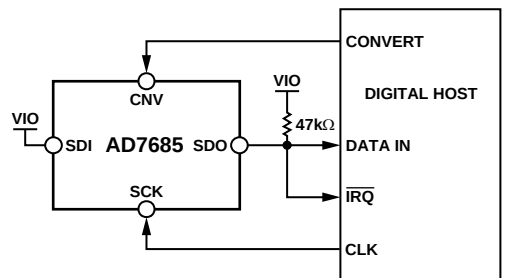
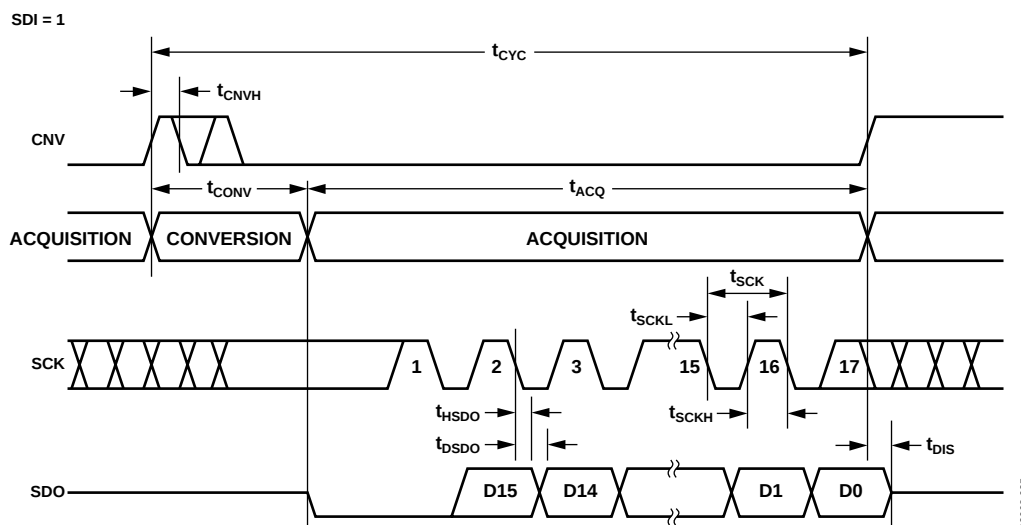
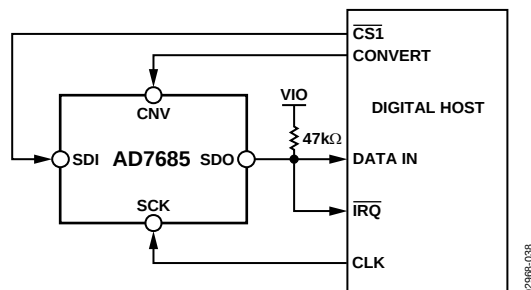
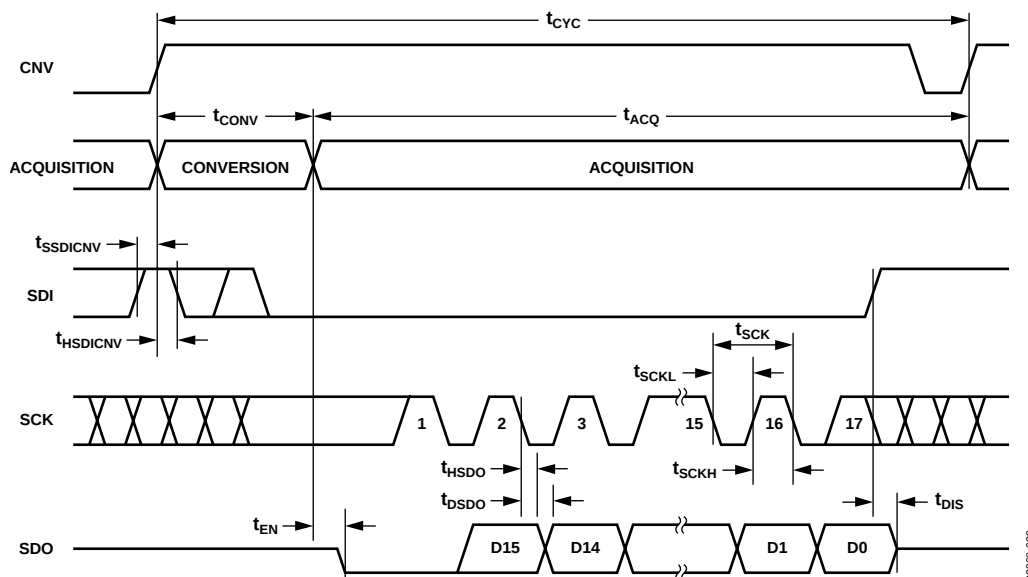

Figure 35. $\overline{\text{CS}}$ Mode 3-Wire with **BUSY** Indicator Connection Diagram (SDI High)
Figure 36. $\overline{\text{CS}}$ Mode 3-Wire with **BUSY** Indicator Serial Interface Timing (SDI High)
Figure 39. $\overline{\text{CS}}$ Mode 4-Wire with **BUSY** Indicator Connection Diagram
Figure 40. $\overline{\text{CS}}$ Mode 4-Wire with **BUSY** Indicator Serial Interface Timing
- In the $\overline{\text{CS}}$ mode, if CNV or SDI is low when the ADC conversion ends (Figure 36 and Figure 40).
The connection diagram is shown in Figure 35 and the corresponding timing is given in Figure 36.
The connection diagram is shown in Figure 39 and the corresponding timing is given in Figure 40.